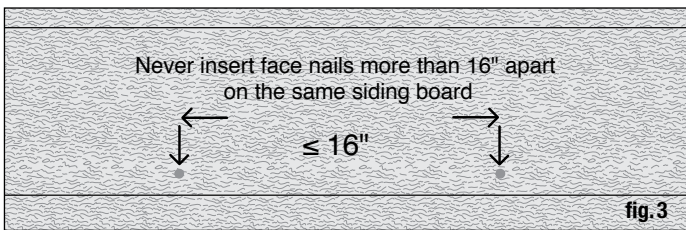

fig.3
- One nail should never be inserted more than 16" away from another nail during the nailing process. 12" nail spacing is recommended (fig. 3).